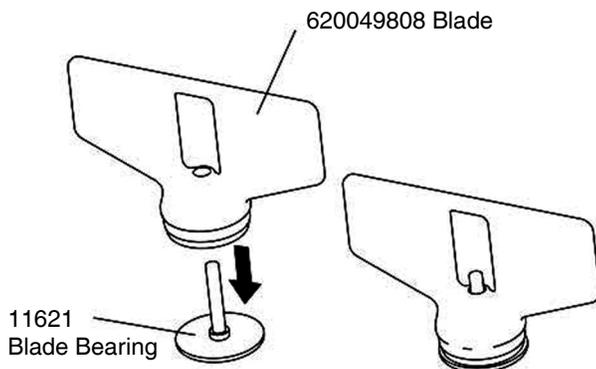

Figure 9.
7. Locate the blade in the bowl. The magnet self-locates the blade, once it is moved into position. Make sure blade bearing is in place before placing it in the bowl, as shown in Figure 9.
3. Check that the blade is positioned and spins freely on the bearing. Sugar and solids can crystallize under the blade area and cause the blade to bind. Frequent washing eliminates this problem. See Figure 9.